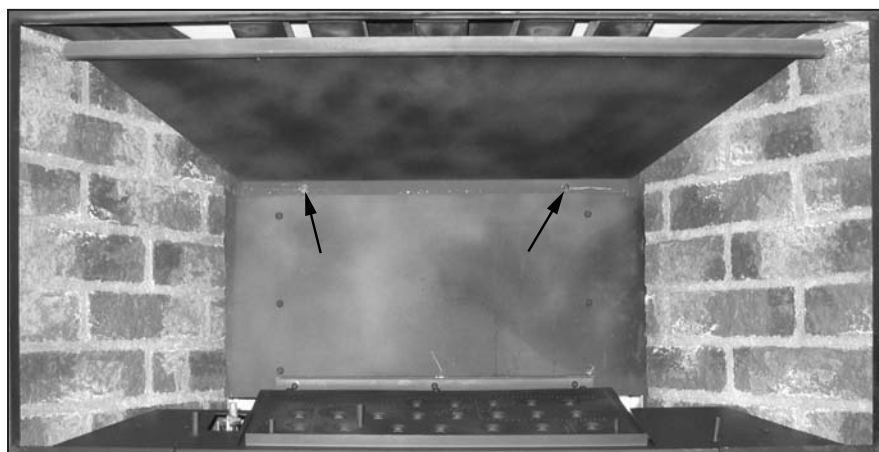

Figure 39: Brick Panel Installation.
7. Remove the two (2) T-20 screws holding the bottom of the baffle (shown in Figure 39).